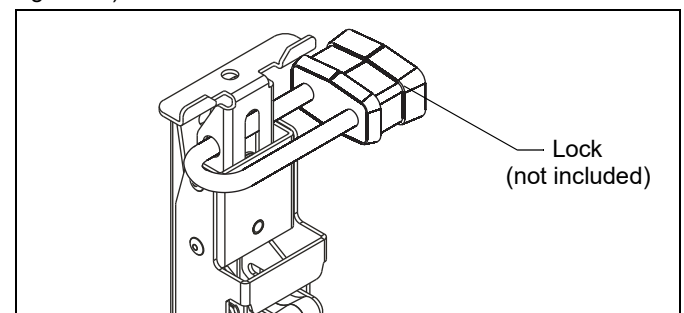

Figure 10
**IMPORTANT !** : If the interface brackets are locked at 0°, a lock (not included) with an extended shackle is required. (See Figure 10)